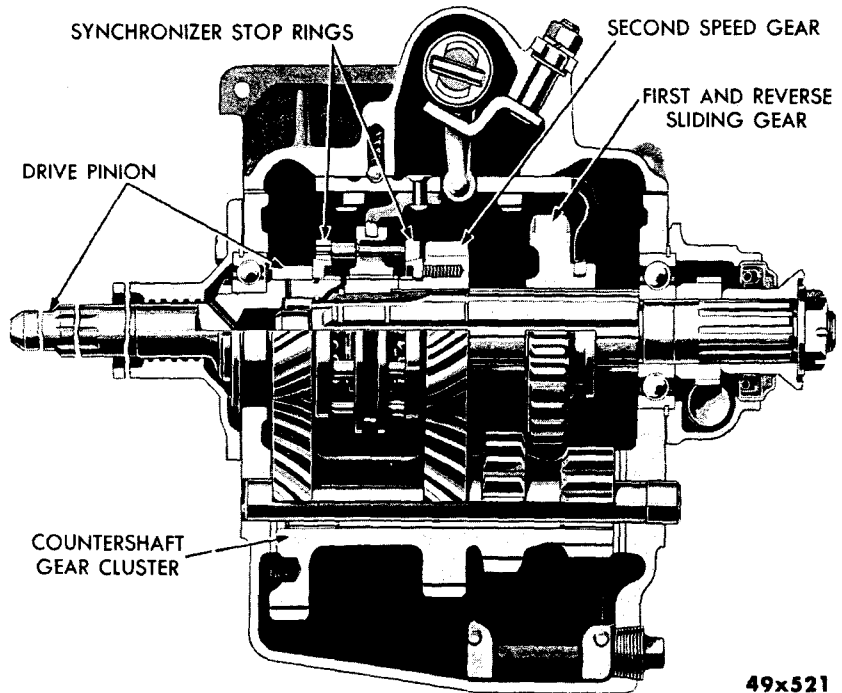

Figure 21 — 3-Speed Transmission
Chrysler 6-Cylinder Industrial Engines use one of the following transmissions (Figs. 21, 22 and 23): (1) 3-Speed; (2) 4-Speed; (3) 5-Speed or (4) a Hydraulically operated power torque.